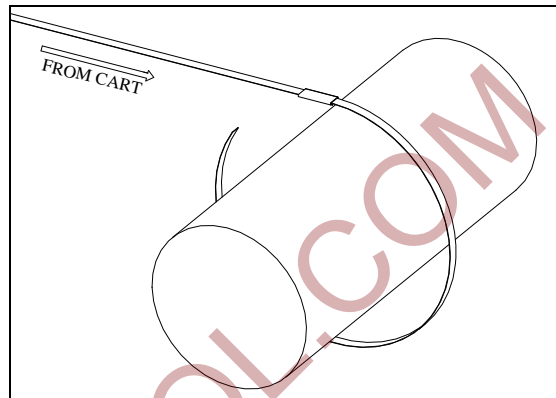

Figure 2
2. Slide end of strap through bottom of seal and fold over the end to form a “hook.” (Figure 2)